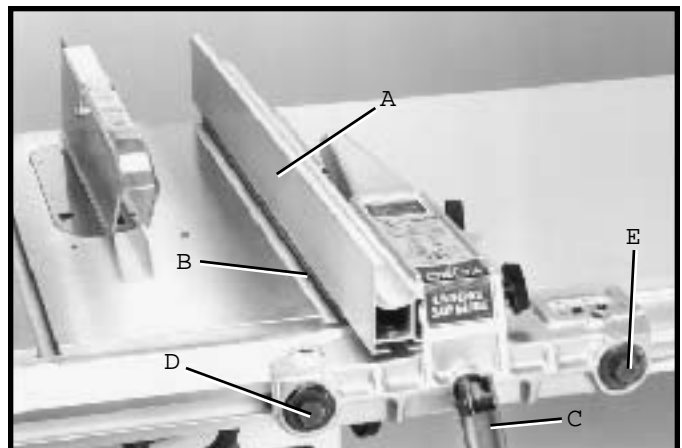

Fig. 97
The fence (A) Fig. 97, should be adjusted so it is parallel to miter gage slots (B). To check and adjust, move the fence (A) until the bottom front edge of the fence is in line with the edge of the miter gage slot as shown, and push down on fence clamping lever (C). Check to see if the fence is parallel to the miter gage slot the entire length of the table. If the rear of the fence must be moved, slightly tighten or loosen one of the adjustment plugs (D) or (E) Fig. 97, using the adbor wrench or 7/8 wrench, until the fence is parallel with the miter gage slot. **IMPORTANT: DO NOT OVERTIGHTEN ADJUSTMENT PLUGS (D) AND (E) FIG. 59. VERY LITTLE MOVEMENT OF THESE ADJUSTMENT PLUGS IS NECESSARY WHEN ADJUSTING THE FENCE PARALLEL WITH THE MITER GAGE SLOT.**